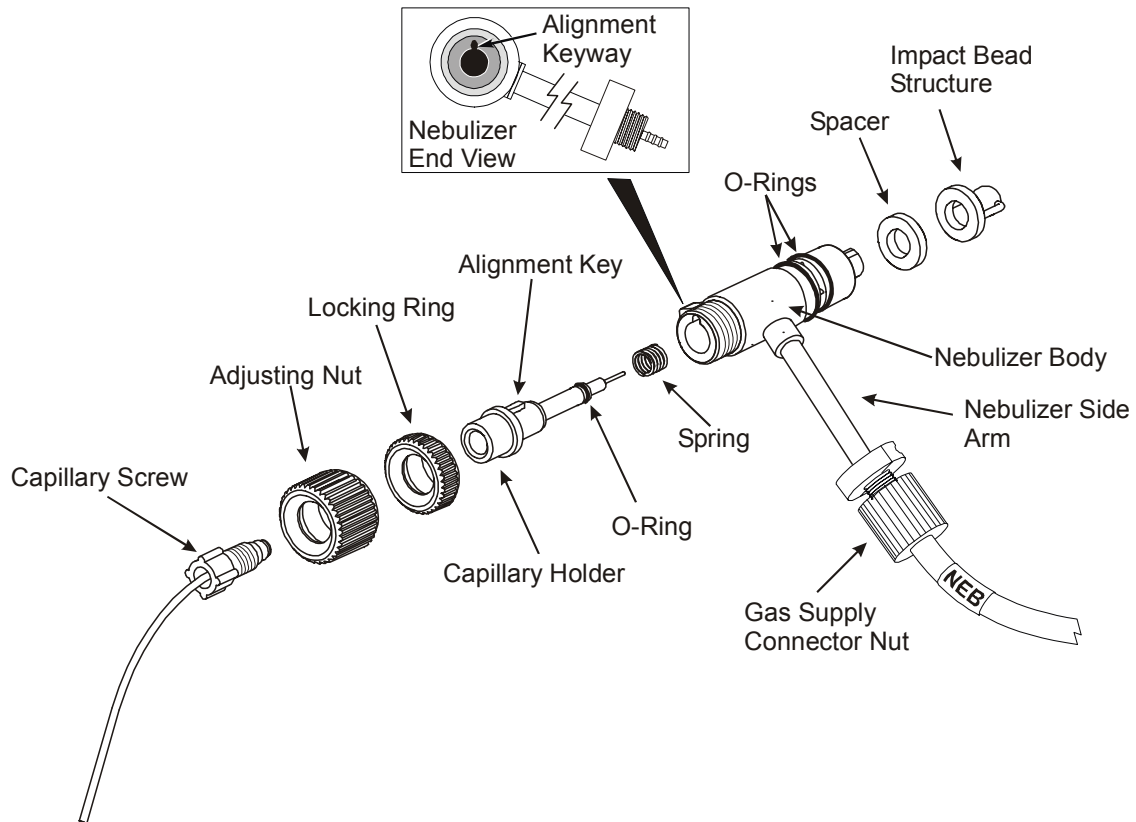

Figure 9- 13 Standard nebulizer assembly
7. Refer to Figure 9- 13 and loosen and then remove the adjustment nut (P/N N037-1492) and locking ring.
The bead structure mounts directly on the nebulizer's body assembly, see Figure 9- 14.